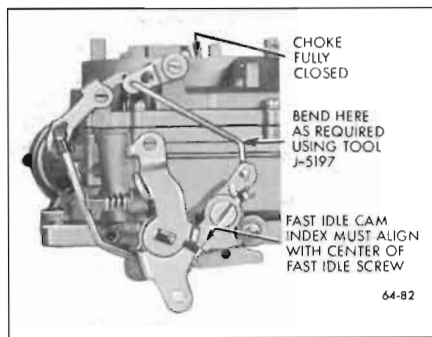

Fig. 64-82—Fast Idle Cam Adjustment
4. Adjust Fast Idle Cam Position. With choke valve held fully closed, open throttle slightly to allow fast idle cam to spring to a neutral position. Now index mark on fast idle cam must align with center of fast idle screw. If mark does not align, bend fast idle rod using Tool J-5197 as required to make mark align. See Figure 64-82.